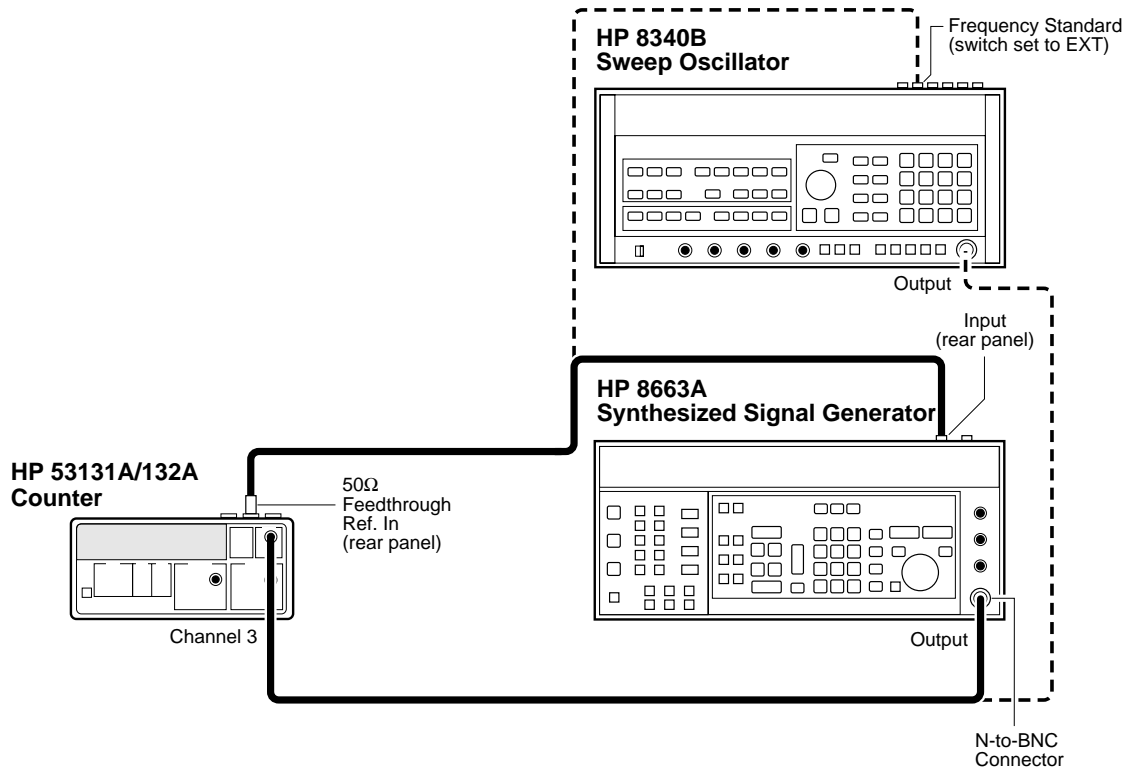

Figure 1-9. Option 030/050/124 Channel 3 Frequency Sensitivity and Accuracy Test Setup
- 1 Set the HP 8663B Synthesized Signal Generator to output a 2500 MHz, -40 dBm sine wave, and connect the signal to Channel 3 of the Counter as shown in Figure 1-9.**
- 1 Disconnect the HP 8663A Synthesized Signal Generator from the Counter (see Figure 1-9), and connect the HP 8340B Sweep Oscillator to Channel 3 of the Counter.**
- 1 Connect equipment as shown in Figure 1-9.**
of the Counter as shown in Figure 1-9.**